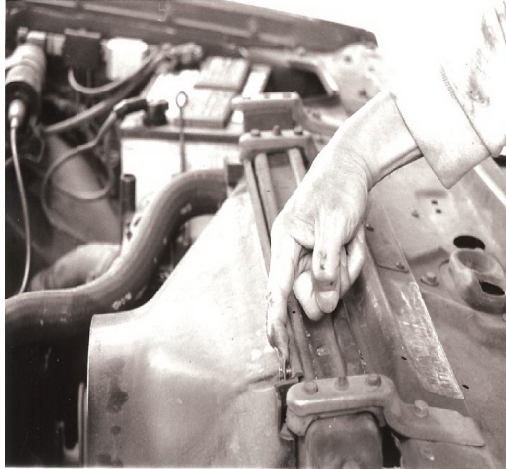
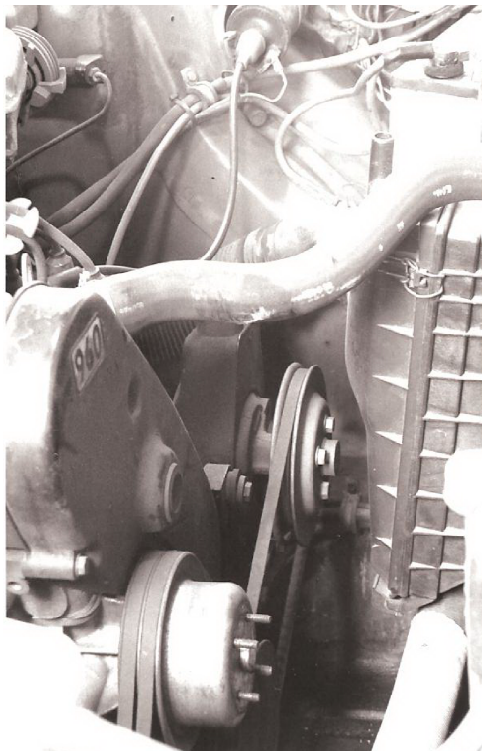

Figure 2. Removing the fan shroud.
Figure 3. With the fan shroud removed, the front of the engine is visible.
2. Remove the 2, 8-mm nuts at top of fan shroud (**Figure 2**). These could be Phillips screws. Lift shroud out. Front of engine looks like **Figure 3**.